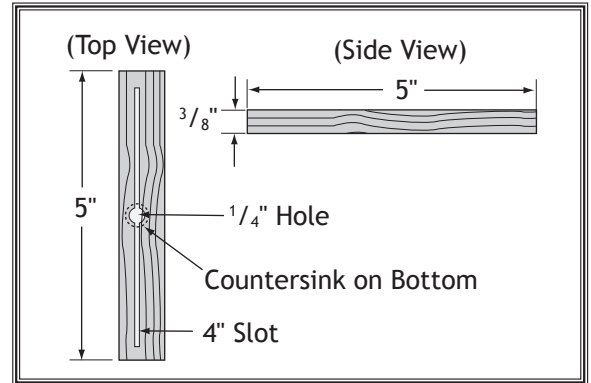

Figure 74. Miter bar pattern.
5. Cut a miter bar that will fit in the table miter slot approximately 5" long, as shown in **Figure 74**.